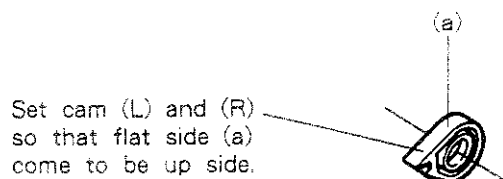

Fig. 2-15
- a. Be careful with the direction of guide sub when attaching. (Fig. 2-15)
- b. Be careful not to mistake the cam (L) and cam (R).